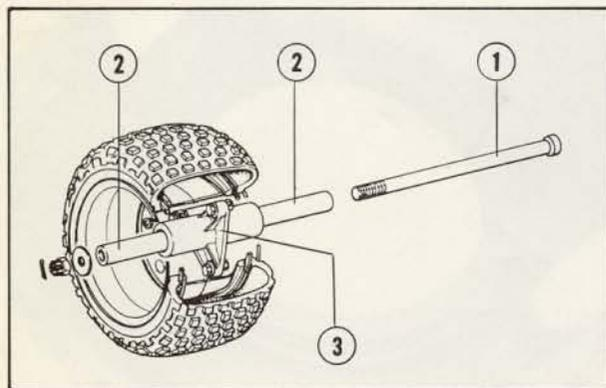

Fig. 4-11
5. Line up the hole in the wheel hub with those in the front fork; without disturbing the above setup, install the axle with the end through these holes. Install the axle from the side as shown in Fig. 4-11. Bend the ends of the cotter pin against the sides of the nut. Tighten the castle nut to specification and if the cotter pin hole does not align with the slot of the nut, back off the castle nut until the hole aligns with the next slot.